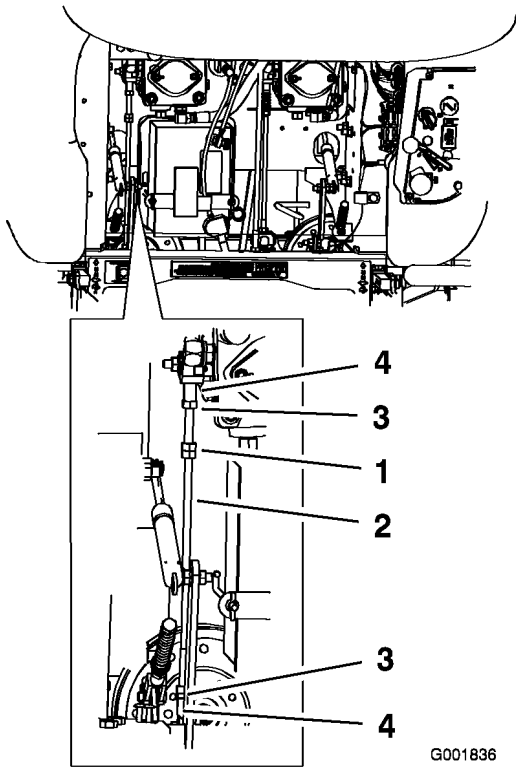

Figure 58
1. Loosen the locknuts at the ball joints on the pump control rod (Figure 58).
3. Adjust the pump rod length by rotating double nuts on the rod, in the appropriate direction, until the wheel is still or slightly creeps in reverse (Figure 58).
6. Tighten the locknuts at the ball joints (Figure 58).